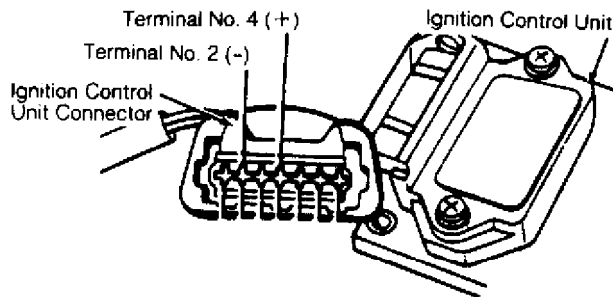

Fig. 10: Identifying Typical Ignition Control Unit Connector
1) Perform SPARK TEST in F - BASIC TESTING article. If secondary spark is present, ignition control unit is okay. If secondary spark is not present, turn ignition off. Disconnect ignition control unit wire harness connector. Turn ignition on. Using a voltmeter, measure voltage between terminals No. 2 (negative) and terminal No. 4 (positive) of connector. See Fig. 10.